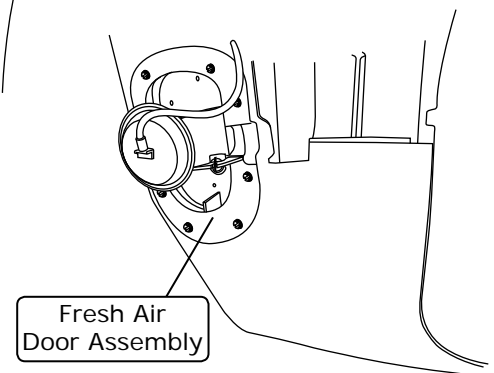

Figure 4
7. Remove the passenger side kick panel/fresh air door assembly (See Figure 4, below).